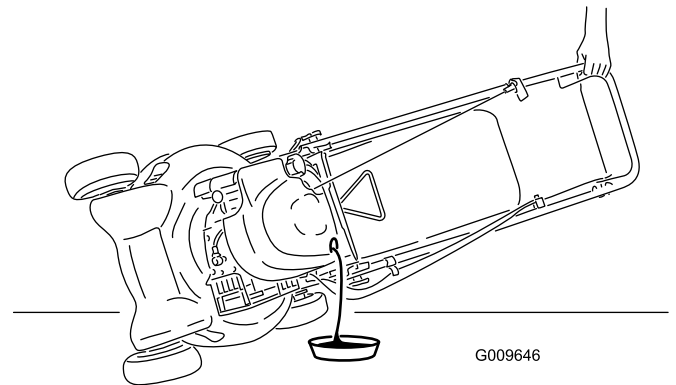

Figure 22
3. Tip the mower onto its side, with the dipstick down, to drain the used oil out through the oil fill tube (Figure 22).